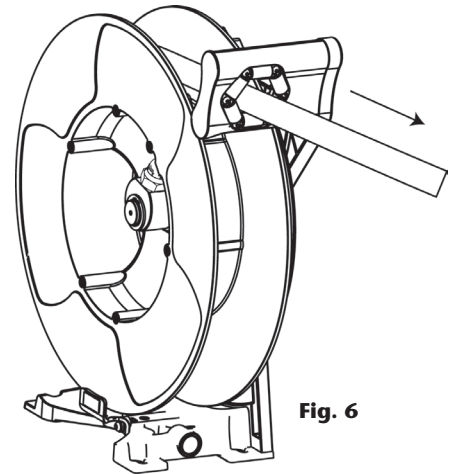

Fig. 6
1. Unwind the hose completely and then search for the ratchet locking position (fig. 6).